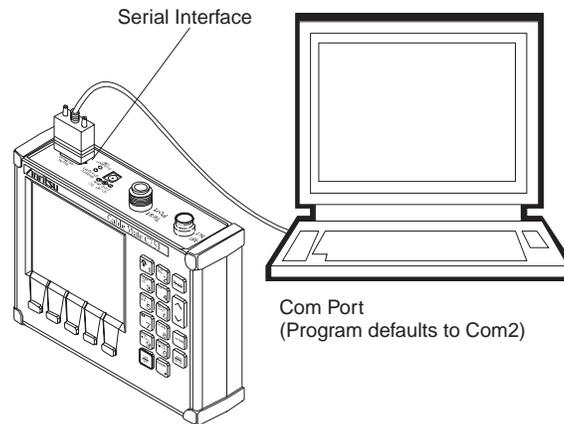

Figure 3-3. Equipment Setup for Cable Mate Tools Operation
- Step 1.** Connect the supplied cable as shown in Figure 3-3.